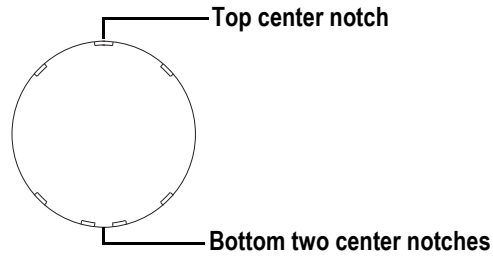

Figure 6
- Step 1: There are seven notches cut into the stippled side of the lens. Position the lens so the cluster of three notches is on top. The center notch of the cluster aligns with the spring clip on the lens retainer ring. See Figure 6.